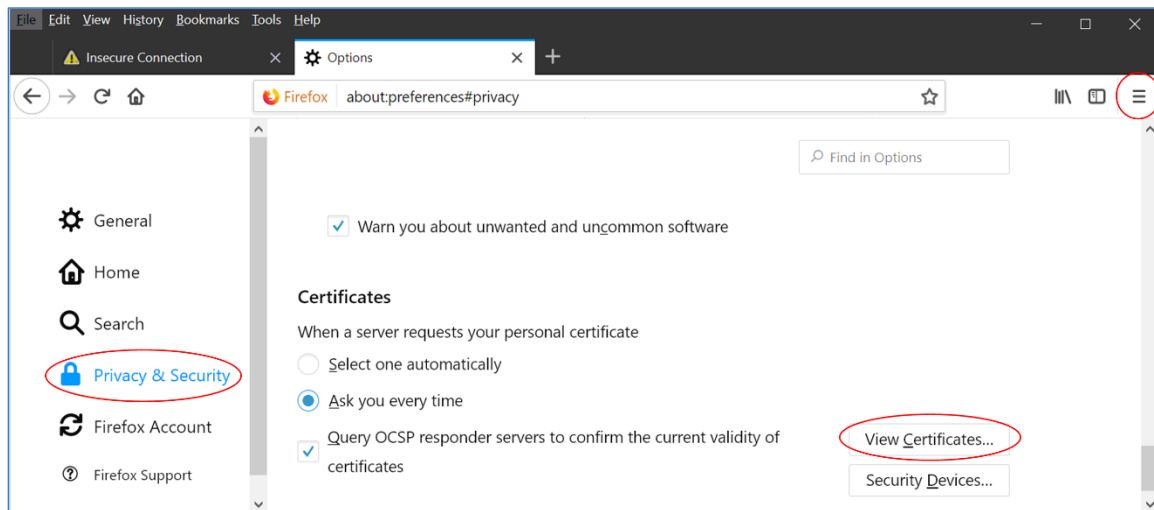

Figure 332: Firefox Options Interface
2. Select Options. The Options tab displays, as shown in Figure 332.